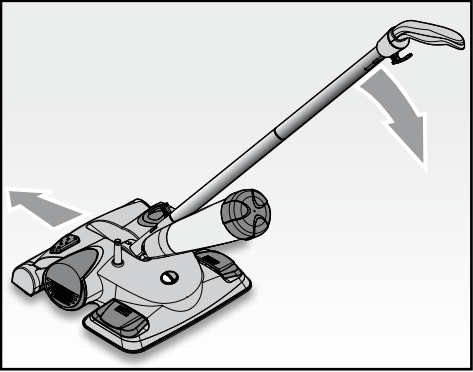

Fig. 4
- Tilt the handle (I); turn the handgrip (H) in the opposite direction to use and proceed to use the suction function (Fig. 4).